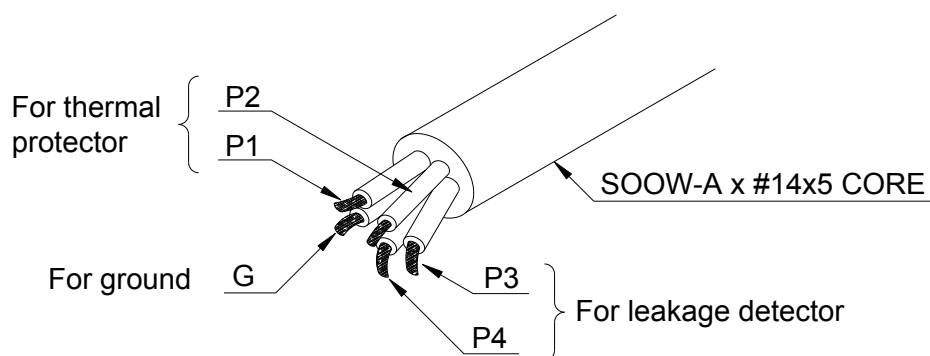

Fig. 15
4.3 Protective Device Cable Connection (Fig. 15 and Table 3)
This pump have a leakage detector at the motor bottom and a thermal protector, in the stator coil to protect the motor, with cable connections as illustrated in Fig. 15. Connect terminals P1 and P2 for the thermal detector to P1 and P2 of the same control connector. Connect the remaining terminal G to ground. Table 3 shows detailed specifications regarding protective devices.